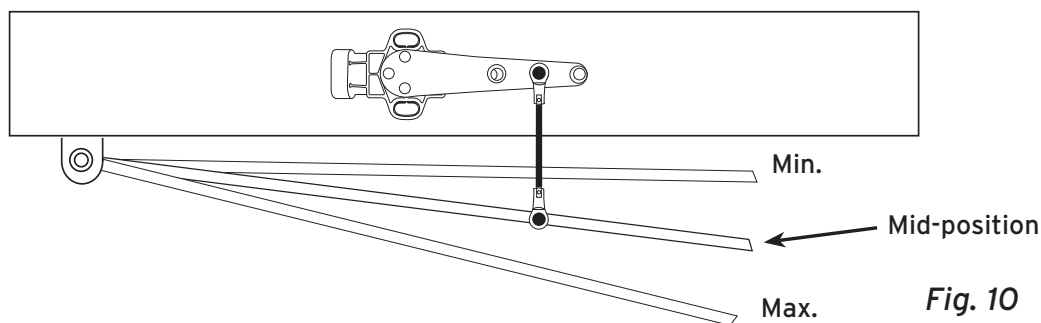

Fig. 10
2. Next, put the suspension in the mid-position with respect to full suspension travel (Fig. 10).